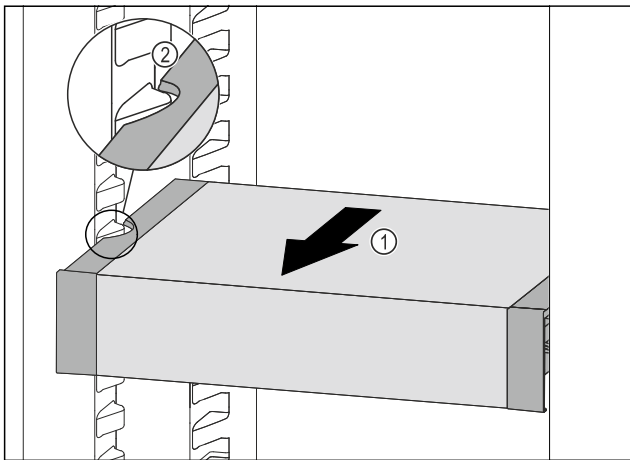

Fig. 107
- ▶ Pull VarioSafe forwards Fig. 107 (1) until the recesses in the side of the VarioSafe are at the level of the support rib in the fridge section. Fig. 107 (2)